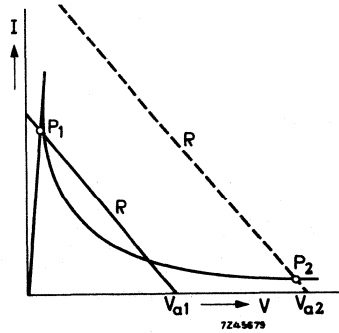

Fig.7.
- (2) the ambient temperature increases (Fig. 7);